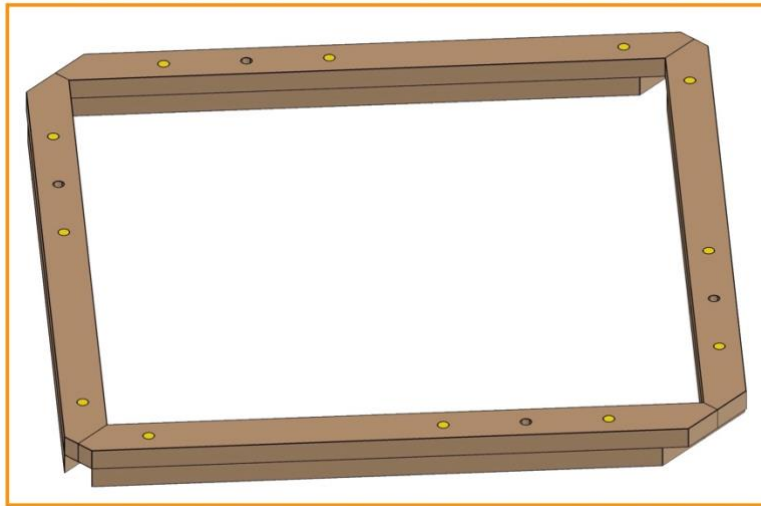

Fig. 21
- Align the parts exactly as shown in *Fig. 21*.